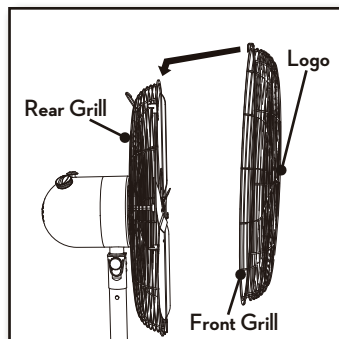

Figure 15
6. Center the front grill by aligning the logo on the grill hub so it is horizontal and parallel to the floor. Figure 15.